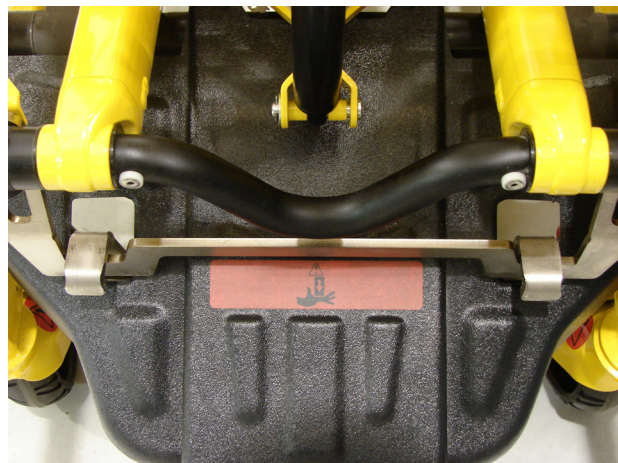

Figure 7: Cot in Fastener (Head End)
3. Make sure that the cot is securely fastened at both the head end and foot end before releasing your grip on the cot as shown in Figure 7.